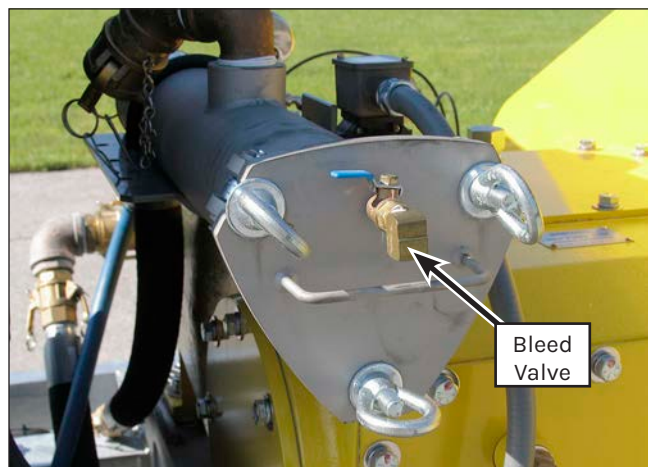

Figure 33: Secondary Filter Bleed Valve.
1. If operating at 40K, first open the bleed valve (Figure 33) and allow any air to purge from the secondary filter. Once a steady flow of water exits the filter, close the valve.